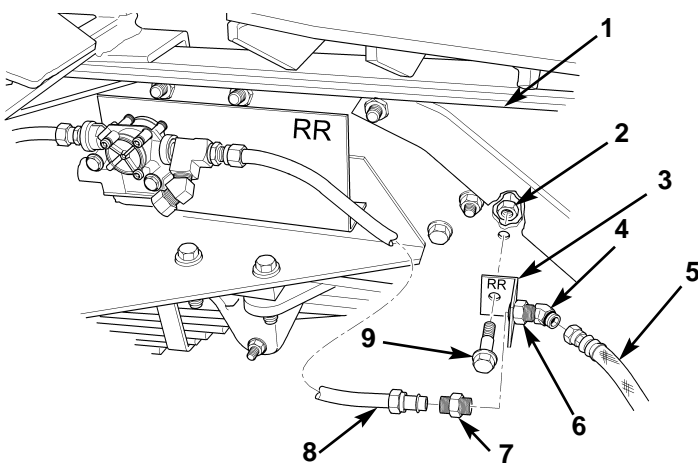

Figure 3. Removing Right-Rear Air Block.
1. Disconnect tube (figure 3, item 8) and air hose assembly (figure 3, item 5) from adapter (figure 3, item 7) and elbow (figure 3, item 4). Remove adapter (figure 3, item 7) from bulkhead fitting (figure 3, item 6).
2. Remove locknut (figure 3, item 2), bolt (figure 3, item 9), and right-rear bulkhead fitting mount (figure 3, item 3) from right frame rail and rear leaf spring shackle (figure 3, item 1). Discard locknut (figure 3, item 2).